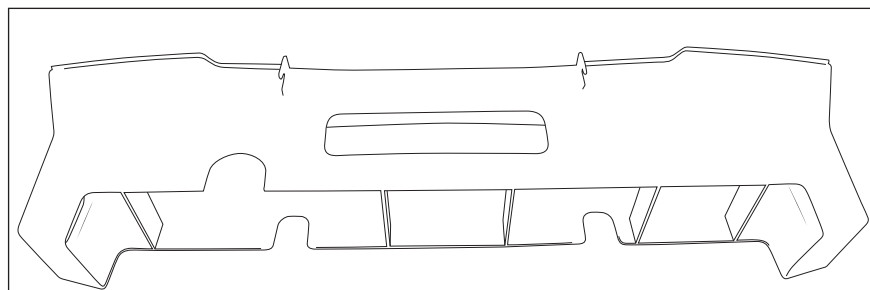

Figure 21
14. Trimming the air diverter (fig. 21).